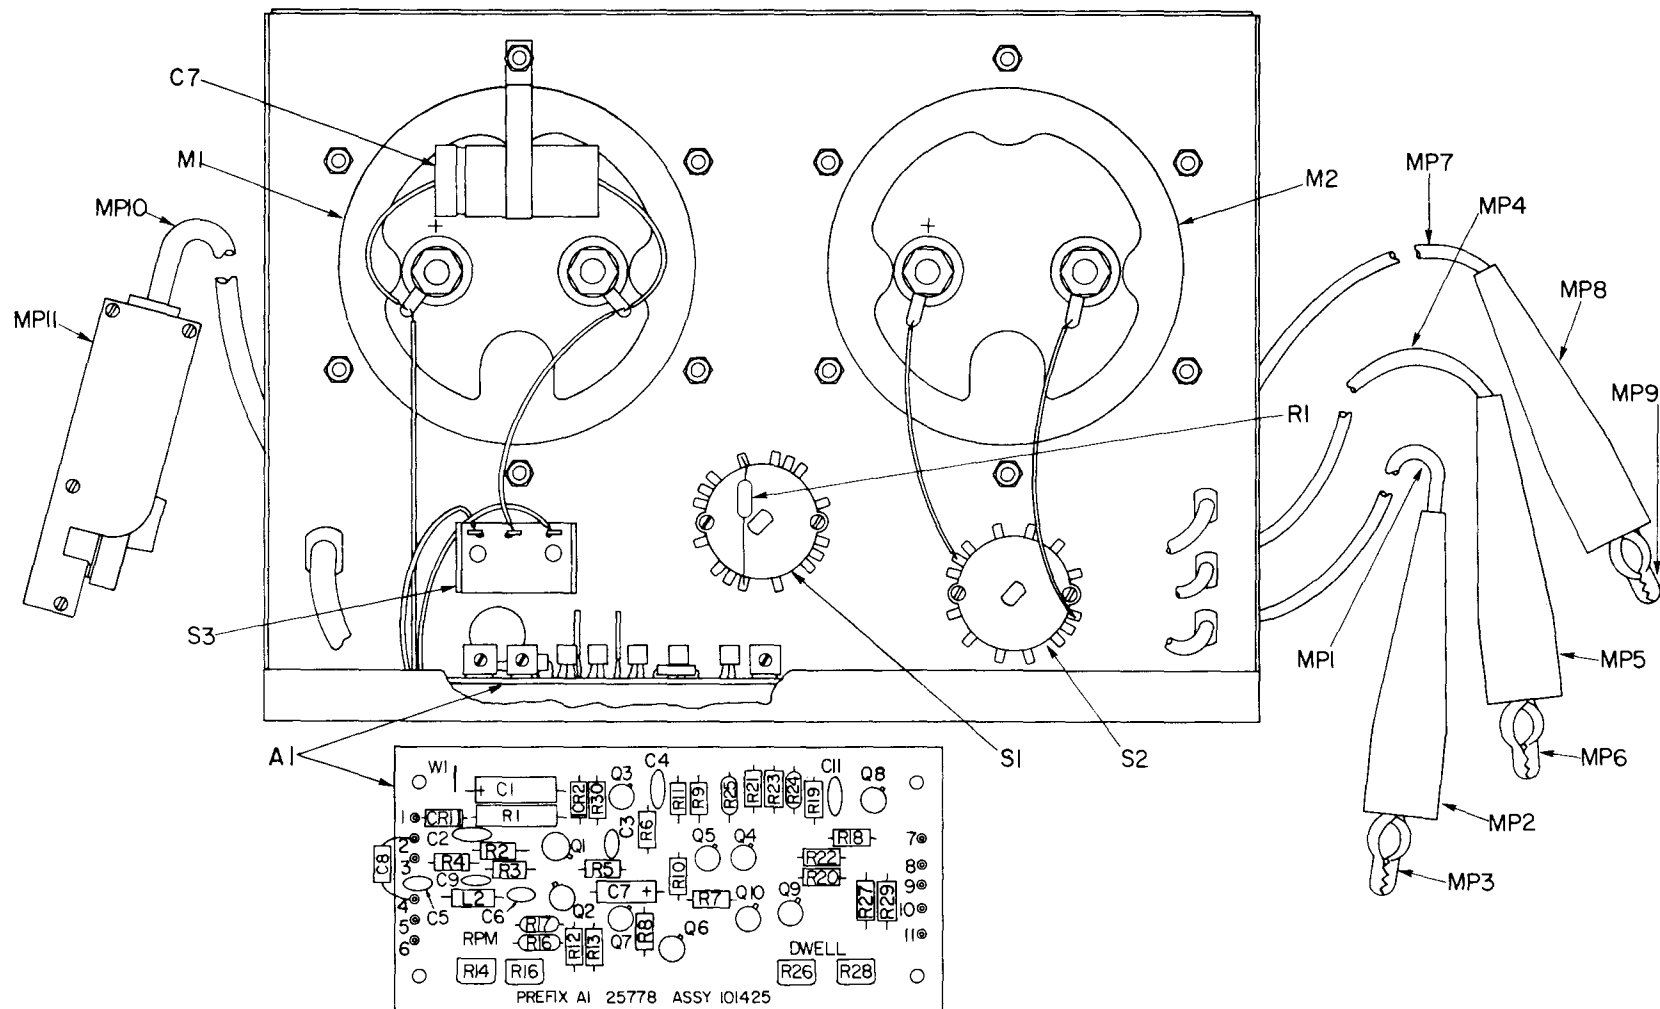

FIG. 5-1. PARTS LOCATION
1. Remove the test set panel assembly from the case (see fig 5-1).
5-1. GENERAL. FIGURE 5-1 SHOWN ALL REPLACEABLE PARTS FOR THE TEST SET. TABLE 5-1 LISTS THE PARTS SHOWING MANUFACTURER, INDEX NUMBER, REFERENCE DESIGNATION (FOR ELECTRONIC PARTS) AND MANUFACTURER'S PART NUMBER. TABLE 5-2 LISTS THE MANUFACTURER'S NAME AND ADDRESS REFERRED TO THE FEDERAL SUPPLY CODE FOR MANUFACTURERS.